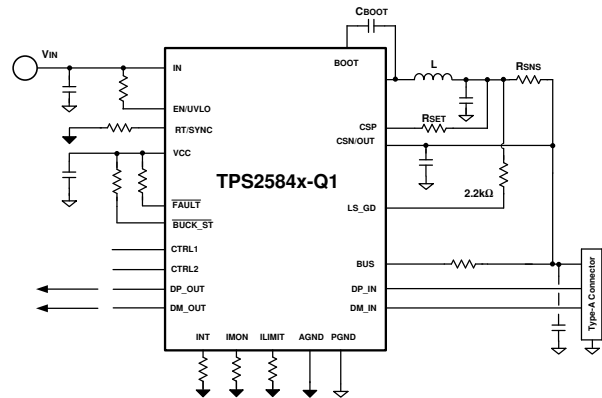

Figure 10-16. Buck Average Current Limit
- Buck Average Current Limit Figure 10-16: